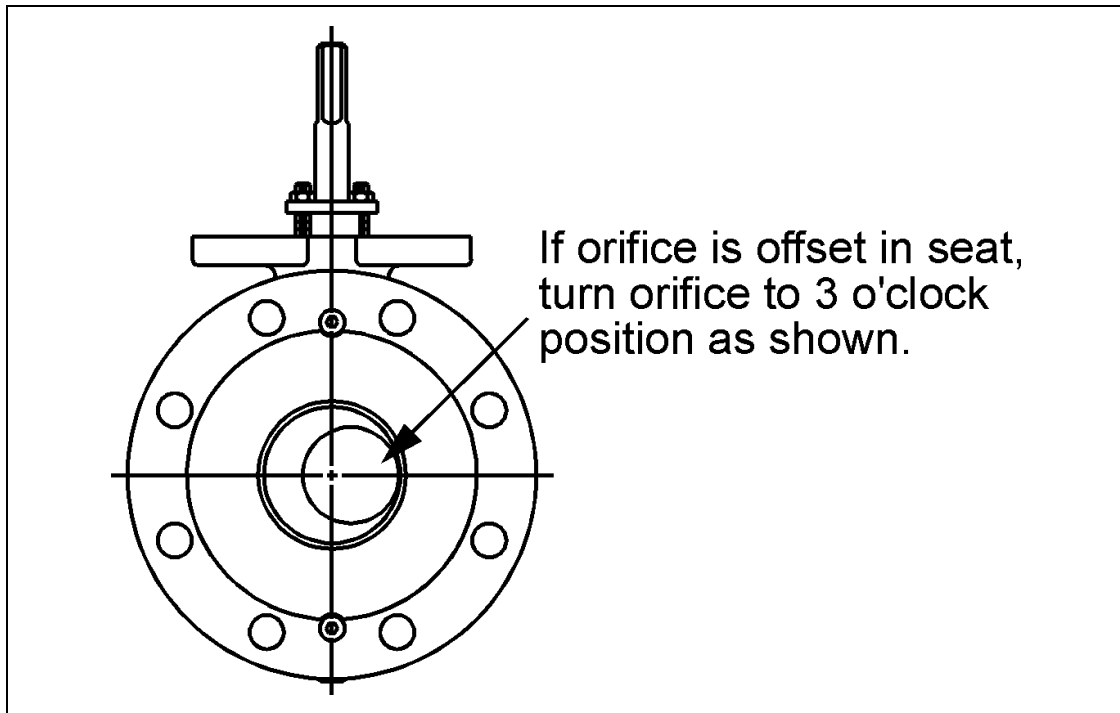

Figure 3 – Correct Position of Plug With Offset Orifice
9. Place the seat (A16) into the valve body with the beveled side of the seat toward the plug. If a reduced trim seat with offset orifice is being installed, position the orifice in the 3 o'clock position as shown in Figure 3.